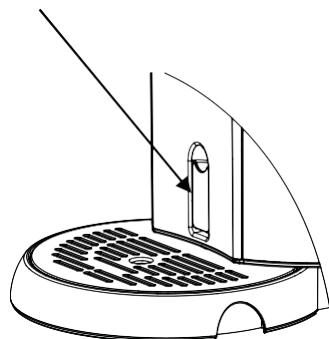

Figure 6
- Note:** Make sure the drain switch is closed, and no foreign objects in the cooling cavity. (Figure 6)